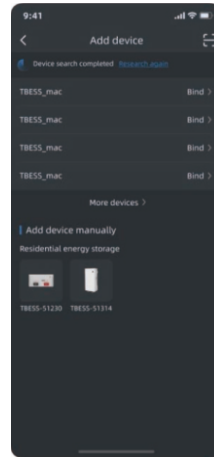

Figure 2
- 2) Figure 2: Display the list of searched devices, select the device to be added, click **"Bind"** to start adding the device; If no device is found, you can click **"Research again"** or use other ways to add it.